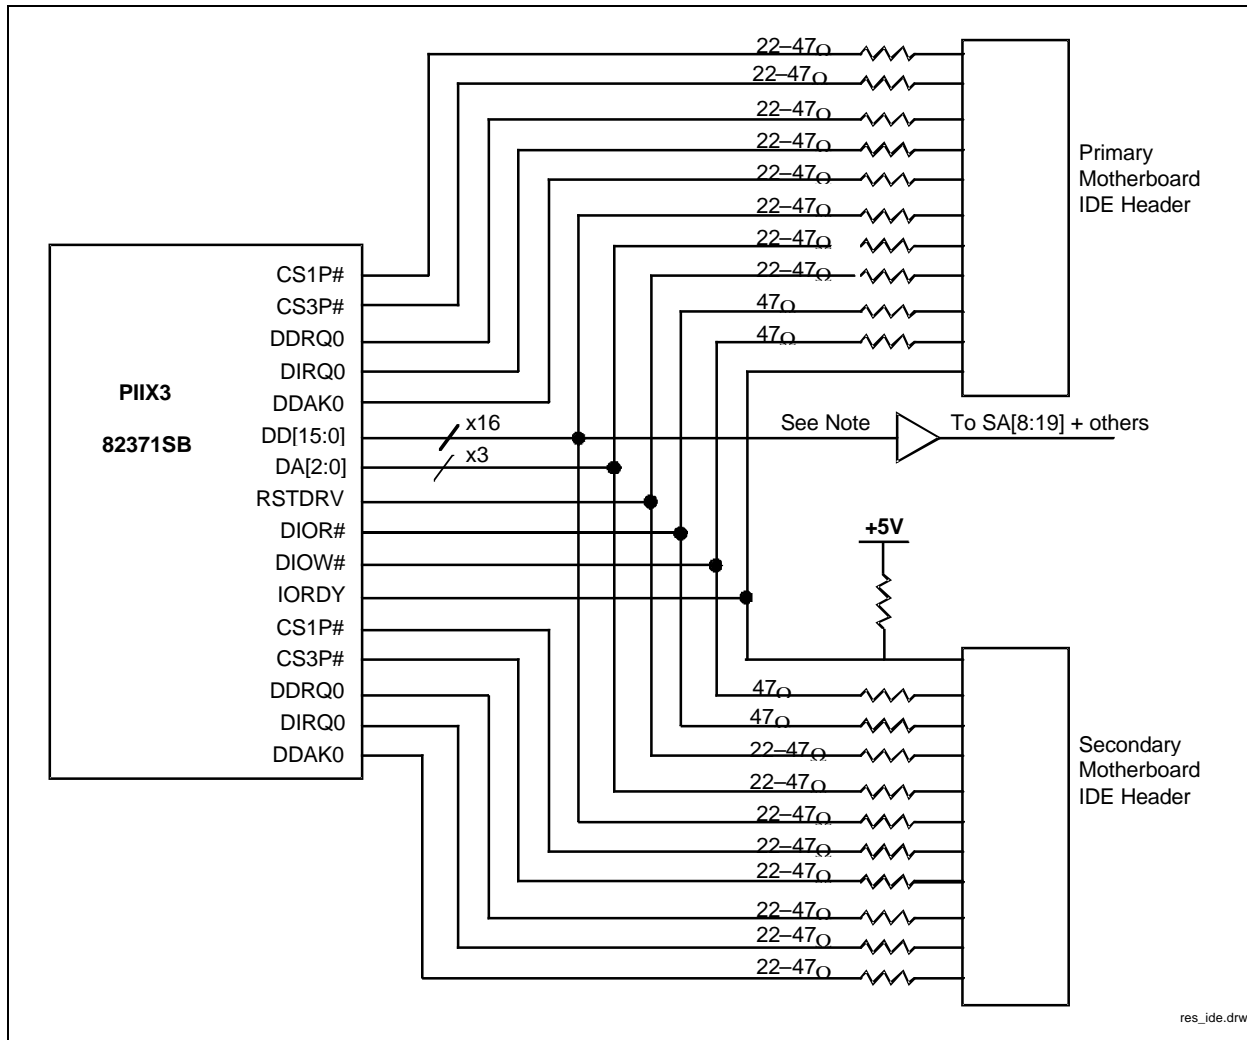

Figure 3-14. Series Resistor Placement for IDE Connectors
2. **Resistor Location:** When the distance between the PIIX3 and the ATA connectors exceeds 4 inches the series termination resistors should be placed within 1 inch of the PIIX3. Designs that place the PIIX3 within 4 inches of the ATA connectors can place the series resistors anywhere along the trace. Figure 3-14 shows a placement example.
The design consideration shown in Figure 3-14 illustrates the series resistor placement for trace lengths not exceeding 4 inches. Note that if the trace length between the PIIX3 and the IDE header exceeds 4 inches, the series resistors should be placed within 1 inch of the PIIX3. The series termination resistors are required in either design.